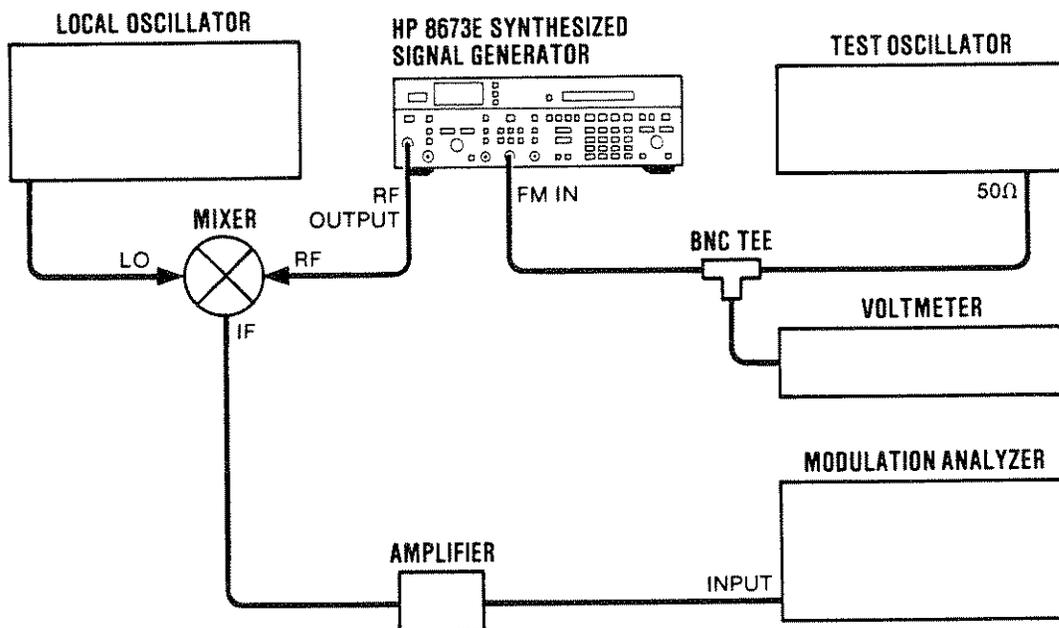

Figure 5-17. FM Accuracy and Overmodulation Adjustment Test Setup
1. Connect the equipment as shown in Figure 5-17.